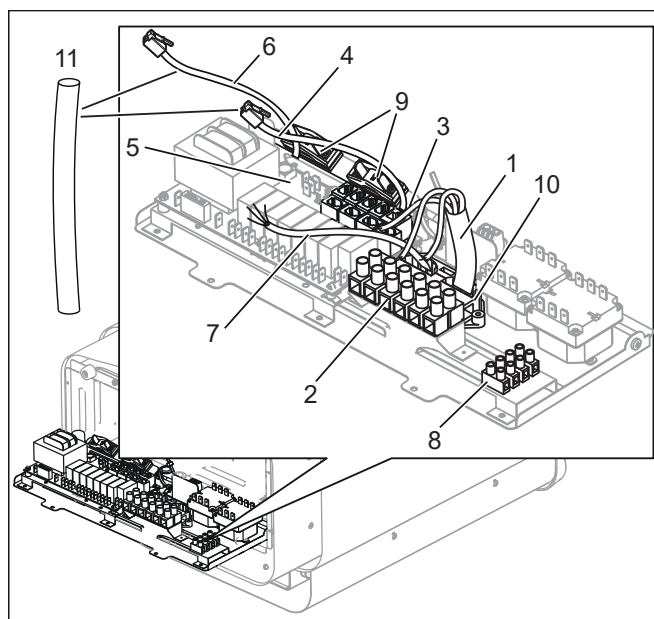
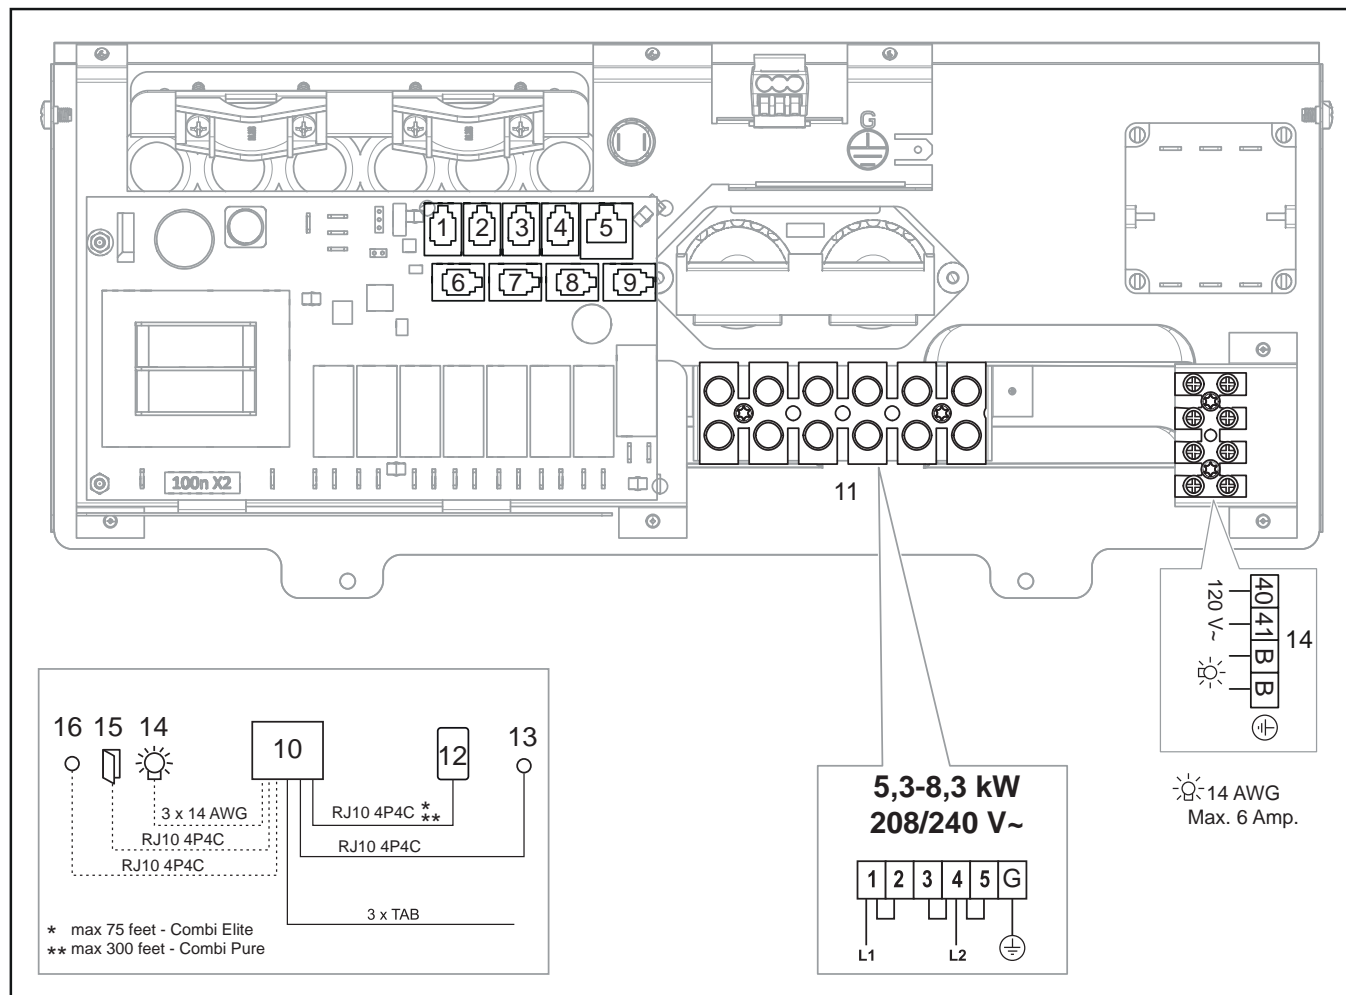

Figure 11: Circuit board
Figure 19: Wiring diagram
4. Connect the main supply electrical cable (1) to the terminal (2) (see Figure 11) according to the wiring diagram (see the Connection/wiring diagram section, page 9).
5. Run the cables for the control panel and the temperature sensor through the cable grommets (3). Connect the control panel cable (4) to one of the four RS485 contacts (positions 6-9) (see Figure 11) according to the wiring diagram (see the Connection/wiring diagram section, page 9 fig. 19).
6. Connect the humidity- and temperature sensors cable (6) to one of the four RS485 contacts (positions 6-9) (5) according to the wiring diagram (see the Connection/wiring diagram section, page 9 fig. 19).
7. Connect the light cable (if relevant) (7), see Figure 11, to the terminal (8) according to the wiring diagram Figure 19.
Contact Tylö Customer Service before connecting to voltages or numbers of phases that are not listed in the wiring diagram Figure 19.